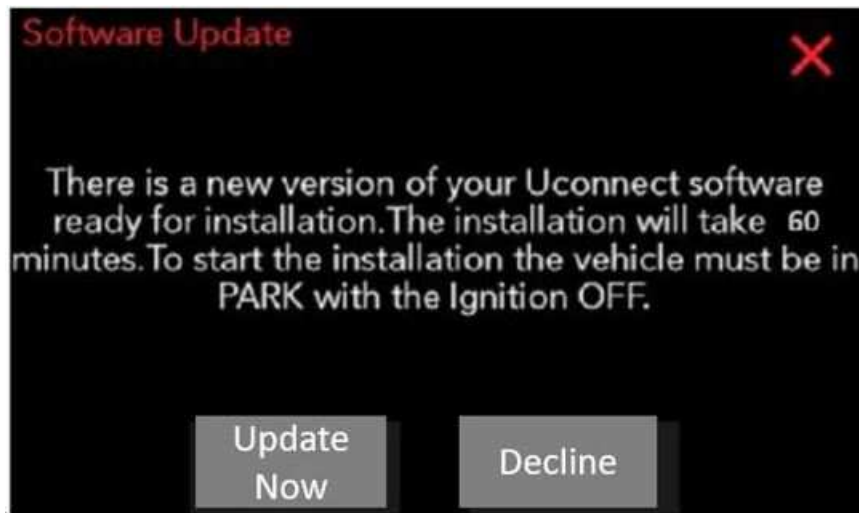

Fig. 7
NOTE: The ignition does not have to be turned off to perform this updated (Fig. 7) .
13. Once the system has verified there is an available update, press the “Update Now” button. Make sure the vehicle is in park, **DO NOT** turn off the ignition (Fig. 7) .